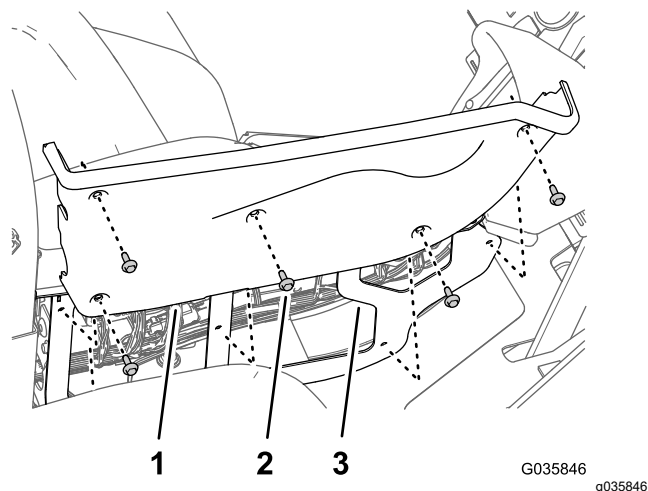

Figure 39
1. Remove the 5 flange-head bolts (1/4 x 3/4 inch) that secure the right-side cover to the center console (Figure 39).
2. Remove the rocker switches for the left and right boom-lift controls from the center-console panel (Figure 39).
6. Align the holes in the right-side cover with the frame of the center console (Figure 39).
7. Secure the side cover on the center console (Figure 39) with the 5 flange-head bolts (1/4 x 3/4 inch) that you removed in step 1.